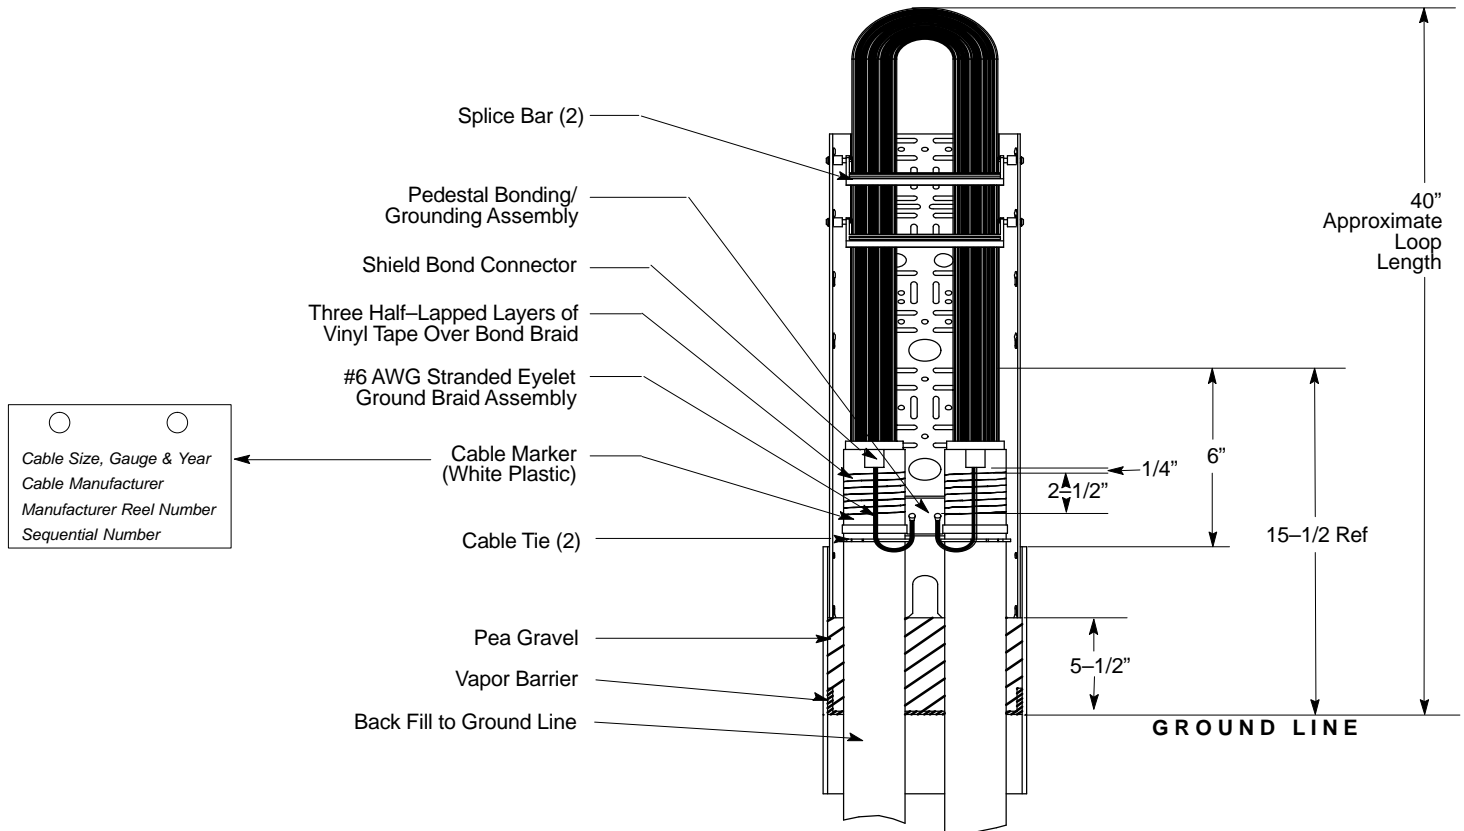
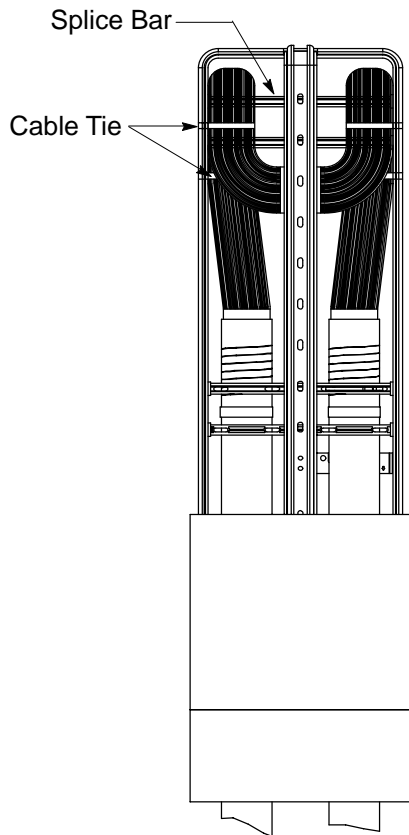

Figure 2. Cplm Cable Pedestal
Figure 5. CPLS – Loop Splice Configuration
7.	Using Figure 2 and/or Figure 5 as a guide, depending on the pedestal configuration, measure the top of the base and make the appropriate sheath opening in the cable. Secure the cables to the bottom two splice bars or the backboard.